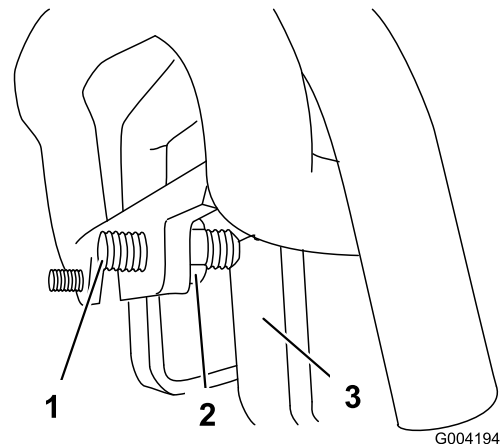

Figure 57
3. If the traction unit veers to the **left**, loosen the **right** jam nut and adjust the tracking set screw on the front of the traction control (**Figure 57**).
4. If the traction unit veers to the **right**, loosen the **left** jam nut and adjust the tracking set screw on the front of the traction control (**Figure 57**).